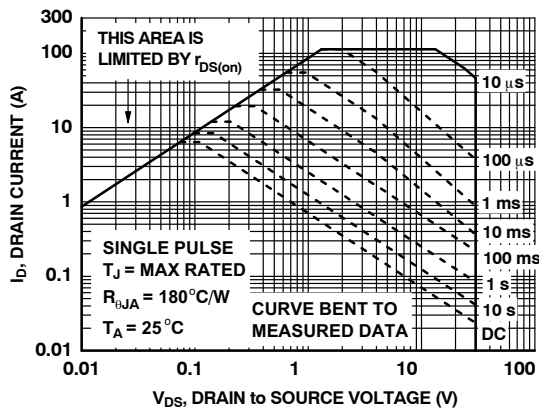
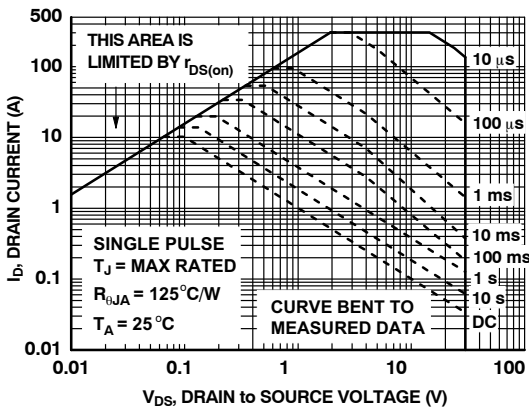

Figure 11. Forward Bias Safe Operating Area
Figure 24. Forward Bias Safe Operating Area
- Pulsed I_d please refer to Figure 11 and Figure. 24 SOA graph for more details.